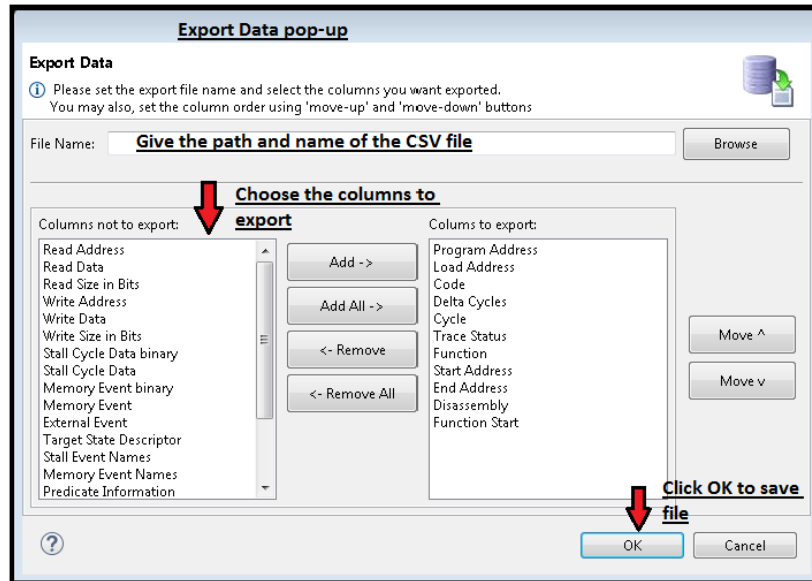

Figure 28. CSV Export Data Pop Up Window
- An Export Data pop up opens (see Figure 28). You can choose which columns to save and the file name through this window.